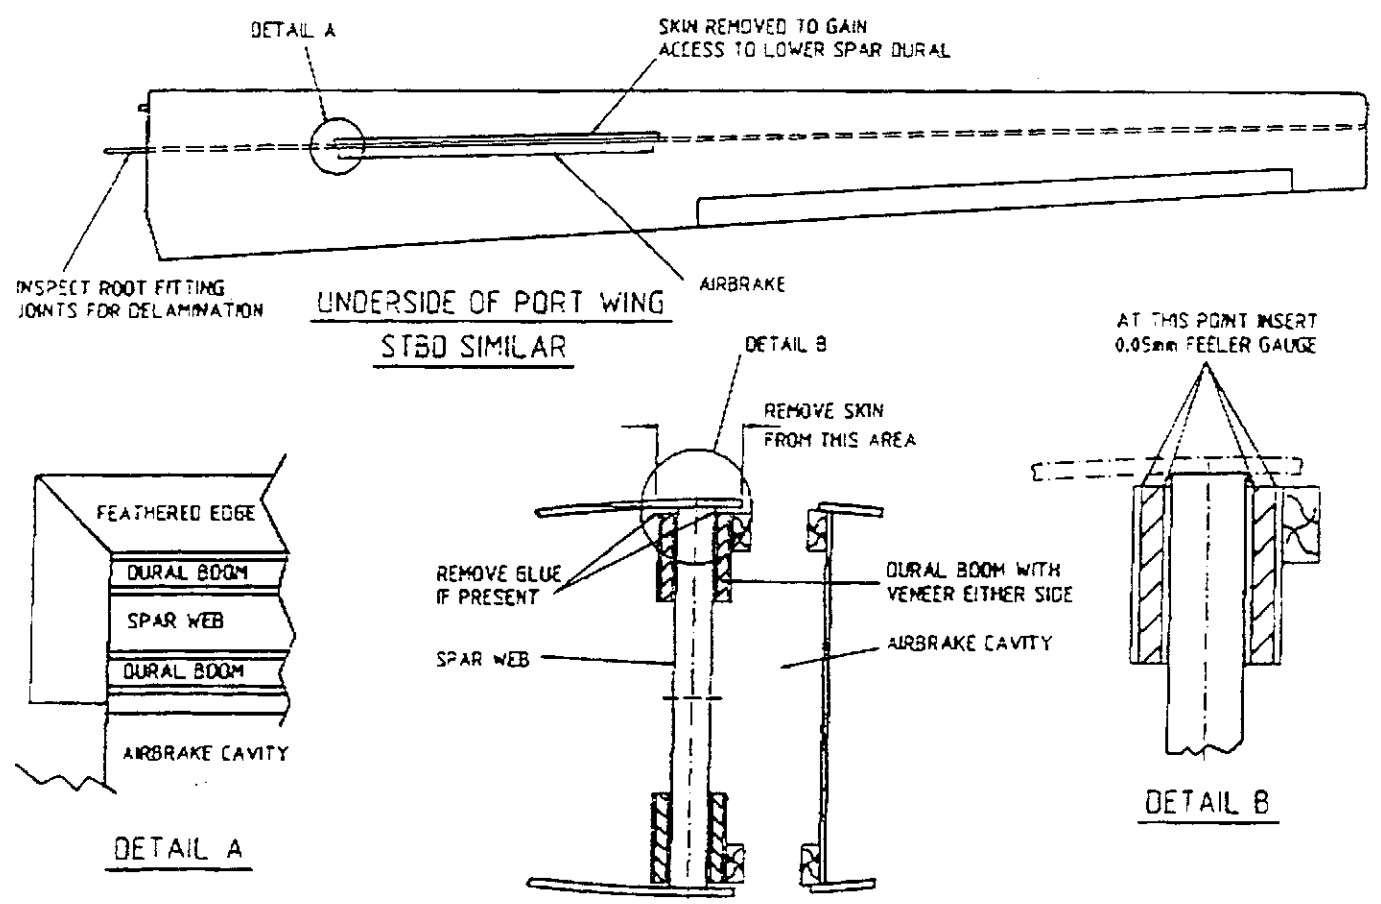

FIG. 1.
- i) Carefully remove the ply skin from both wings, over the lower spar for the length of the airbrake box. Refer to Fig. 1.